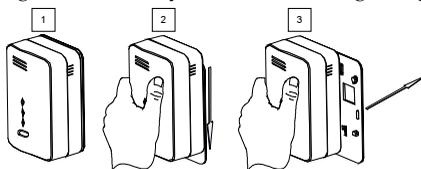

Figure B- 44: Mounting the Detector
1. Remove the mounting bracket from your unit according to Figure B- 44.